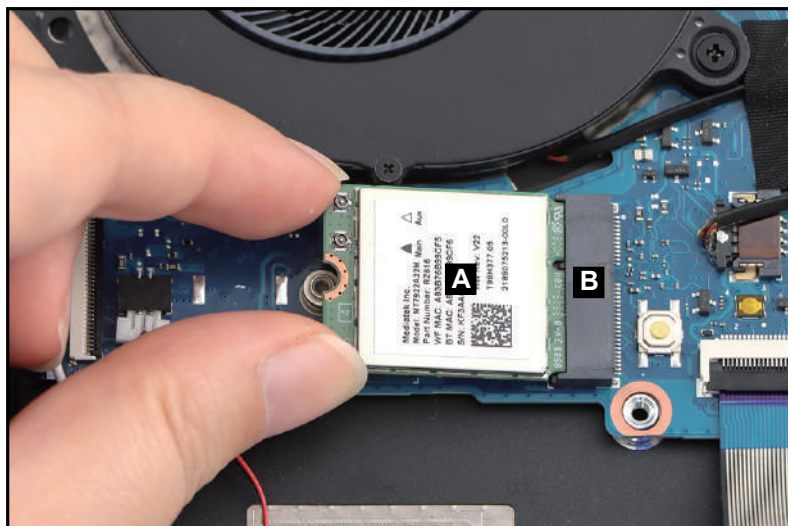

Figure 3-149. Replacing the WLAN Module
1. Connect the WLAN module (A) into the mainboard connector (B) (Figure 3-149).